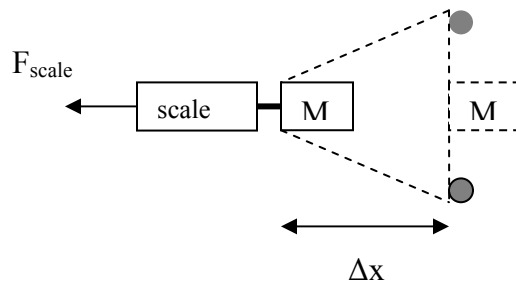

Figure 2
Calculating the Expected Spring Constant K_{equil} - see Figure 2
1. Set the block against the rubber band and attach the brown spring scale to the block as shown in Figure 2.